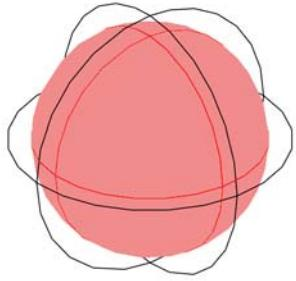

Figure 4-12: A sphere surrounded by a typical spherical PML or infinite element domain region.
- *Spherical*—PMLs absorbing in the radial direction from a specified centerpoint. It is available in 2D axisymmetry and 3D (Figure 4-12).